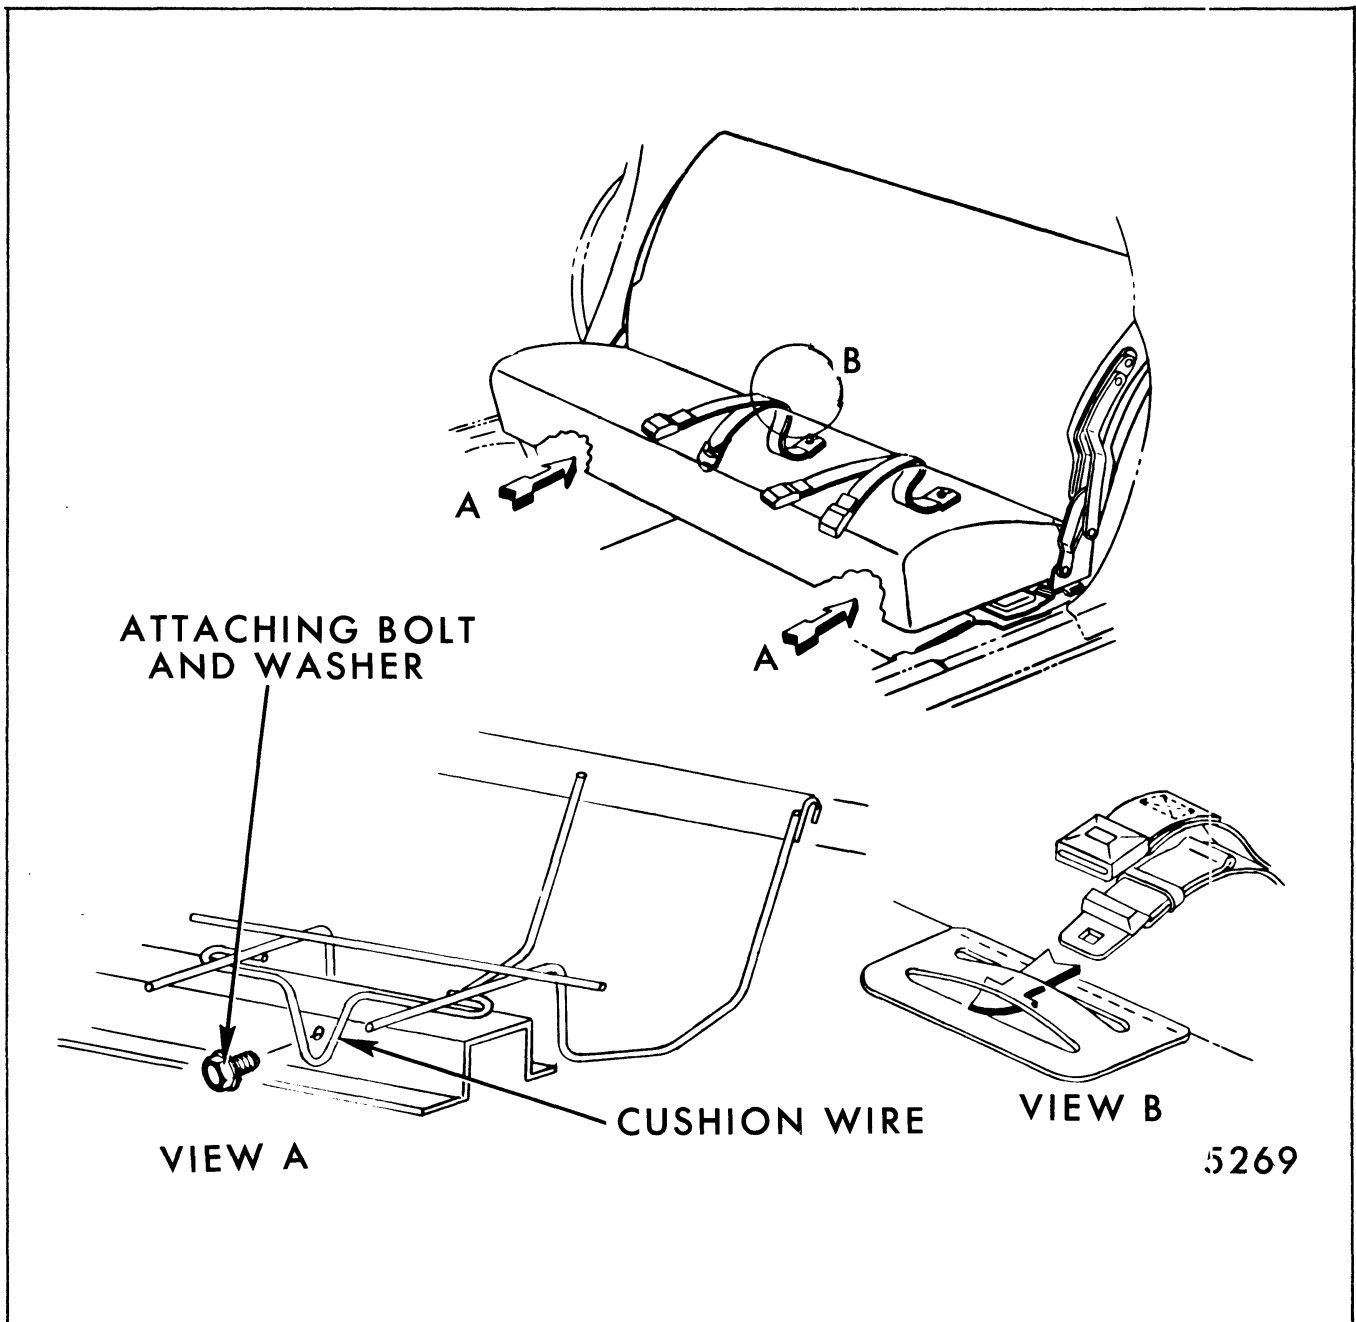

Fig. 9-78-Second Seat Cushion Attachment - "A" Body Two and Three-Seat Styles
1. Remove two (2) seat cushion wire attaching bolts at forward edge of seat cushion. Then, lift upward and pull forward on seat cushion to remove (Fig. 9-78).